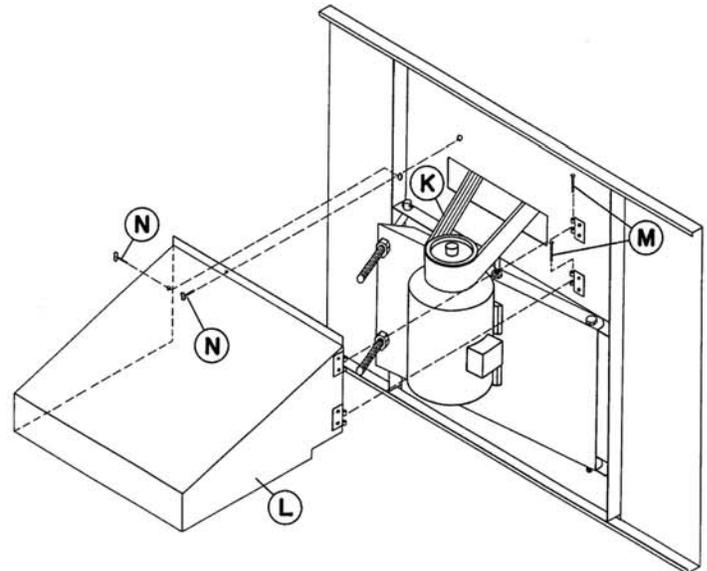

Figure 25 – Motor guard and powerband belt installation
7. Install Powerband belt **K** (Figure 25) around fan sheave and motor sheave. Tighten belt by adjusting nuts on "J" bolts. Do not over tighten the belts. The center of the belt should deflect approximately 3/4" with moderate hand pressure.
10. To install Motor Guard **L**, match up hinges and install hinge pins **M**. (See Figure 25.)
11. Close Motor Guard and install (2) wing bolts **N**.